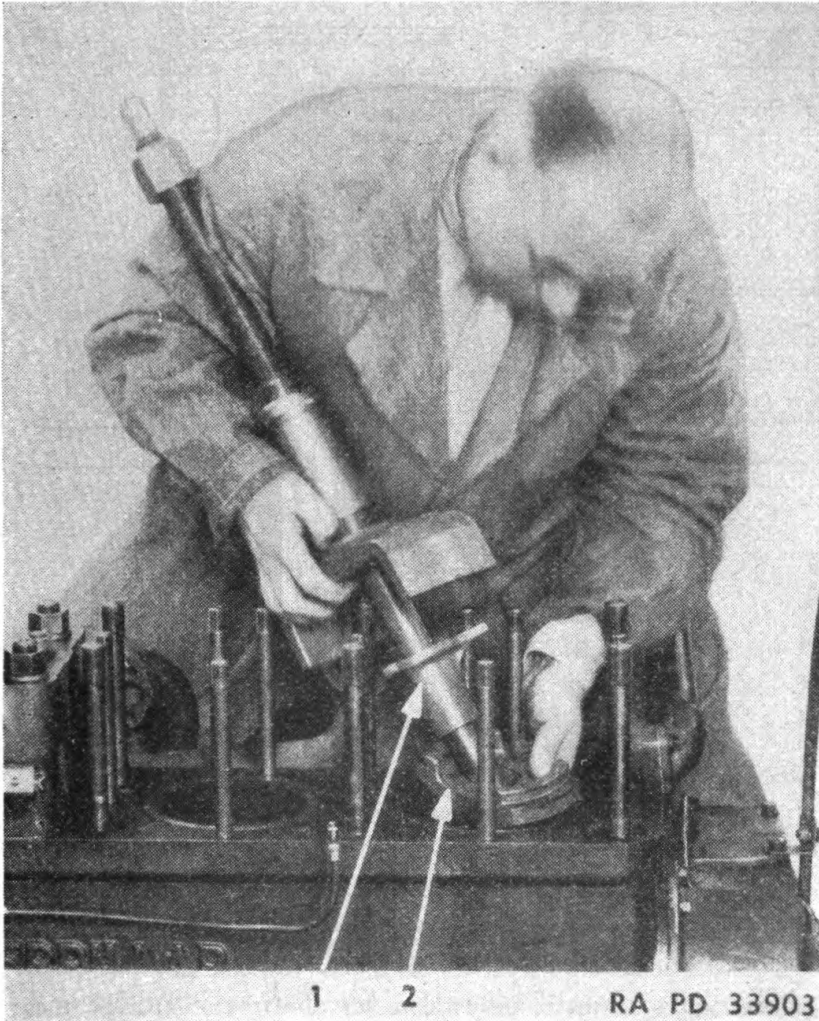

FIGURE 30.— Liner removal tools.
(2) Cylinder liner surfaces are machined, hardened, ground, and finally honed to a mirror finish and chemically treated. The resultant surface is so hard that ordinary boring tools will not machine it.
(3) Liners, pistons, and rings are available from the factory in standard sizes only and require no fitting.
e. Removal.—Cylinder liner tools (fig. 30) are available for removing and installing cylinder liners. The puller stud hole through bottom plate (2) is elongated so the bottom plate can be angled and inserted from the top of the liner. By using guide (1) the bottom plate will be properly centered at the bottom of the liner. Always drain the block of water and protect the crankshaft and bear-